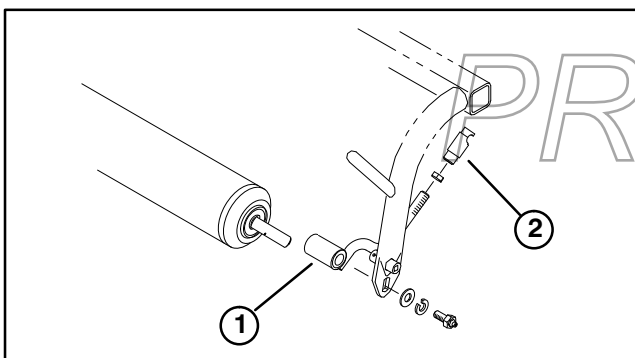

Figure 6
A. Remove fasteners securing roller shaft and pull arms to each end of carrier frame (Fig. 6).
B. Re-install roller and new pull arm assemblies to carrier frame with fasteners previously removed (Fig. 6). Pull arms are to be positioned so they bend outward.
C. Assemble a jam nut and ball joint receiver onto each pull link assembly as shown in figure 6.